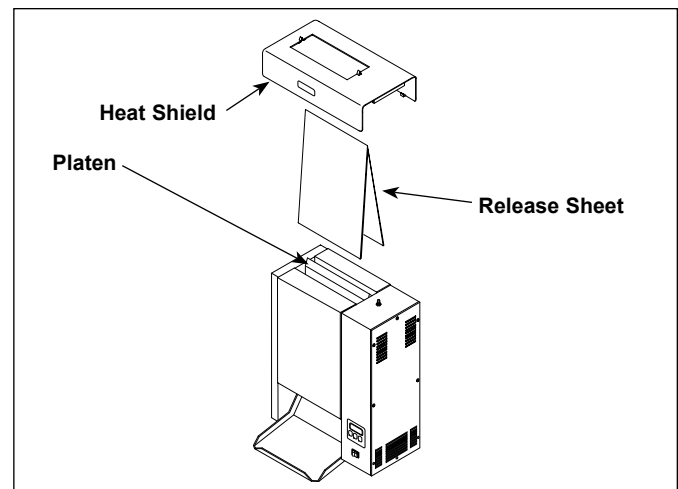

Figure 10. Removing/Installing Release Sheet
2. Put on protective gloves. Remove heat shield and release sheet (Figure 10).
6. Install the release sheet by draping it over both sides of the platen with the crease centered directly on the platen (Figure 10).
7. Install the heat shield (Figure 10). The heat shield clips fit over the tip of the platen and retain the release sheet.